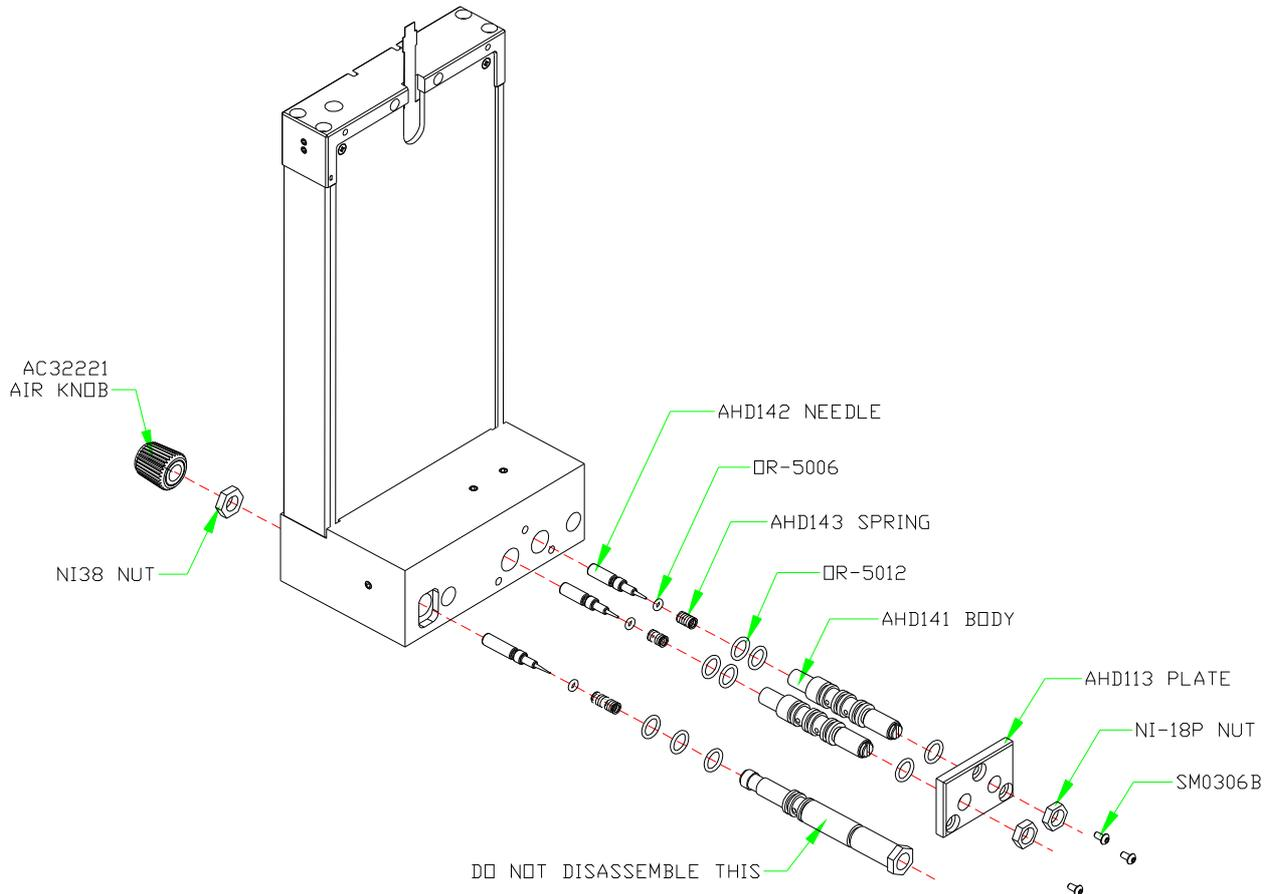

Figure 20: Components to replace in AHD60 Anti hypoxic Device
- a. If we want to only remove the components to be serviced in the anti hypoxic device there is no need to remove the AHD60 assembly. Refer to Figure 20.